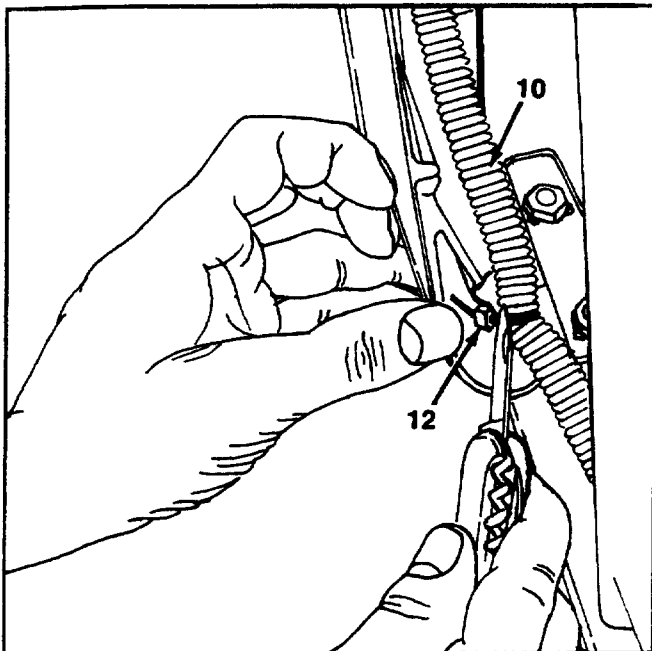

FIGURE 9.
- 10. Cut the cable tie at the bottom left hand side of grille, holding the headlight wire harness. See figure 9.